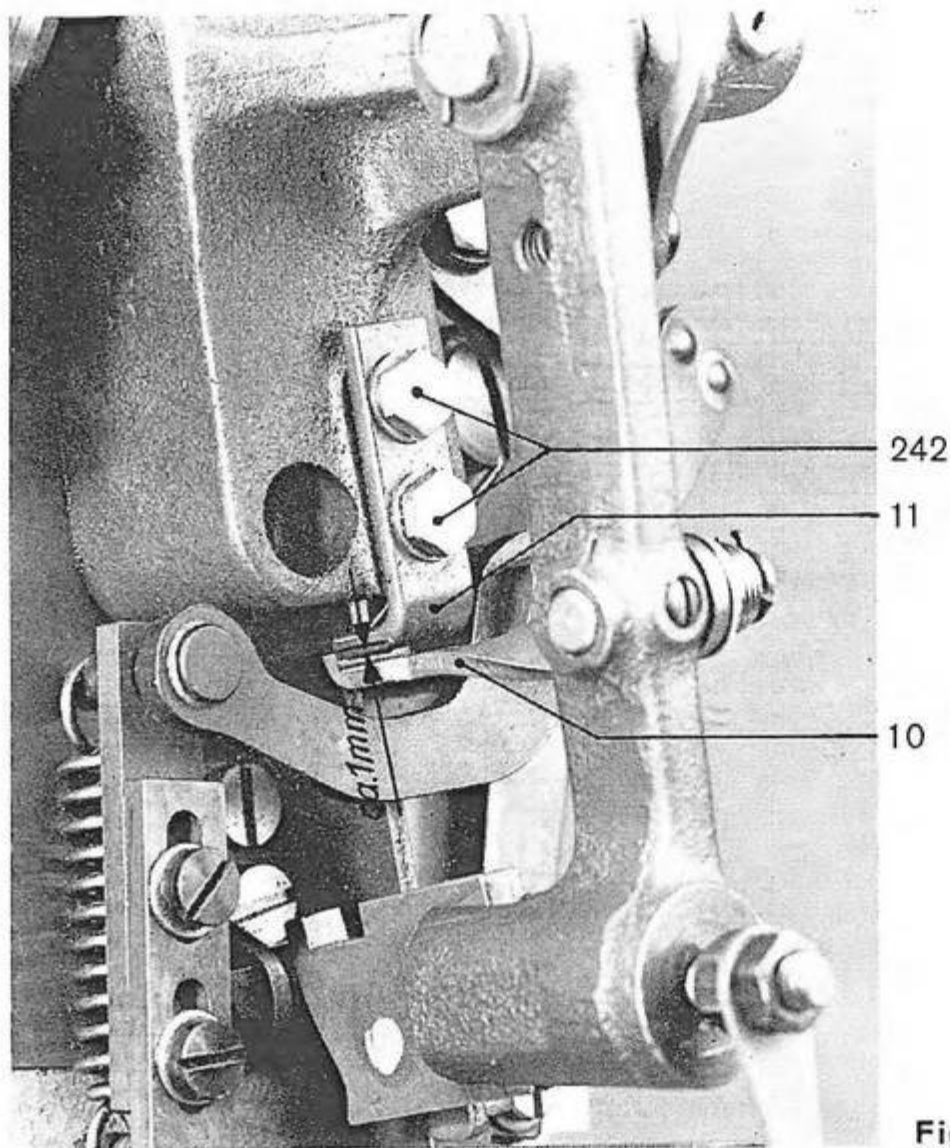
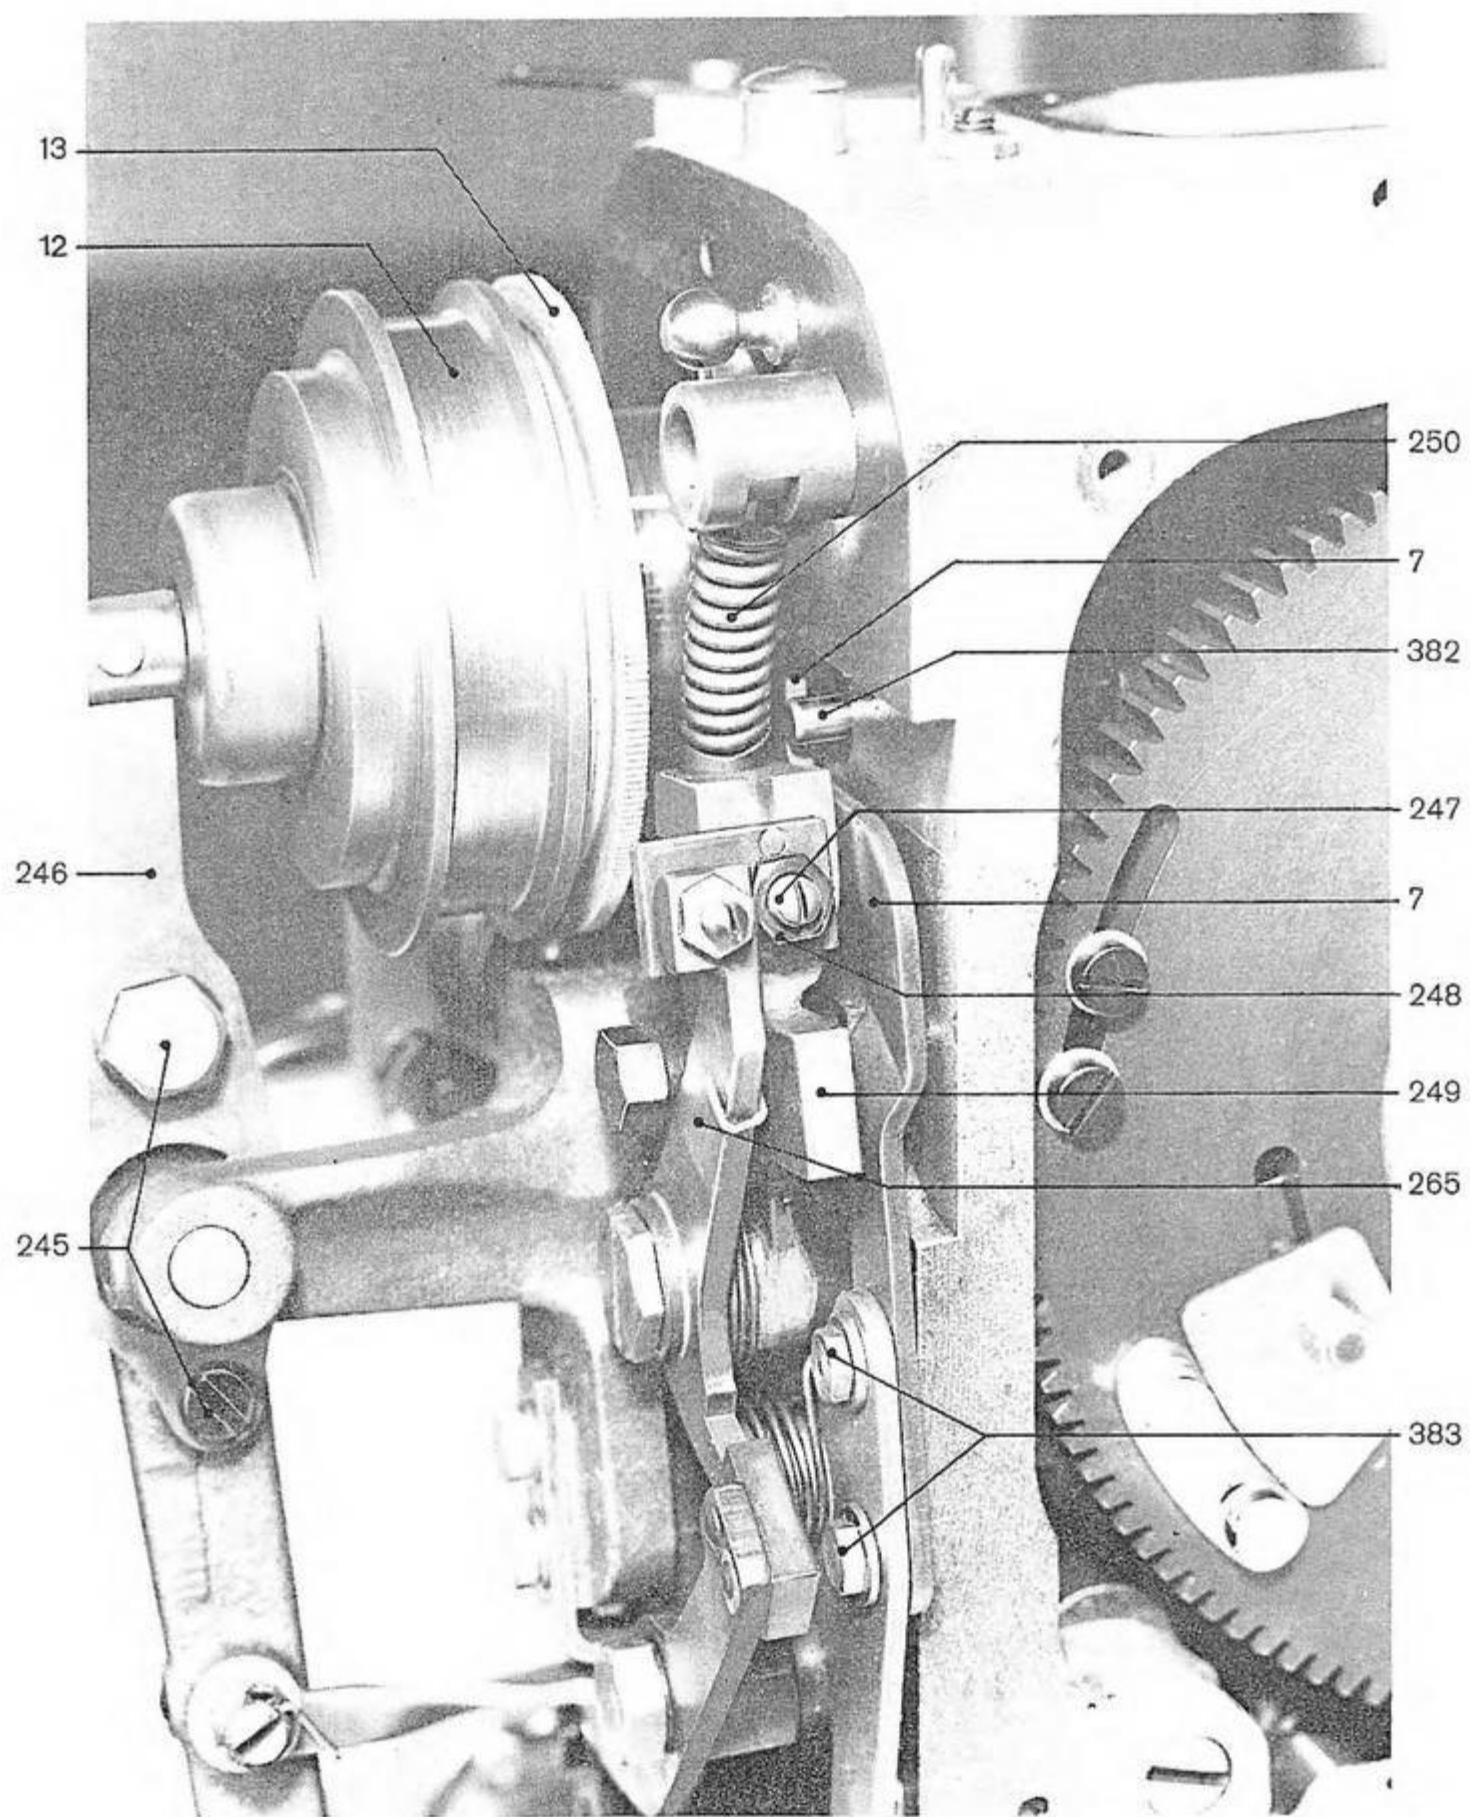
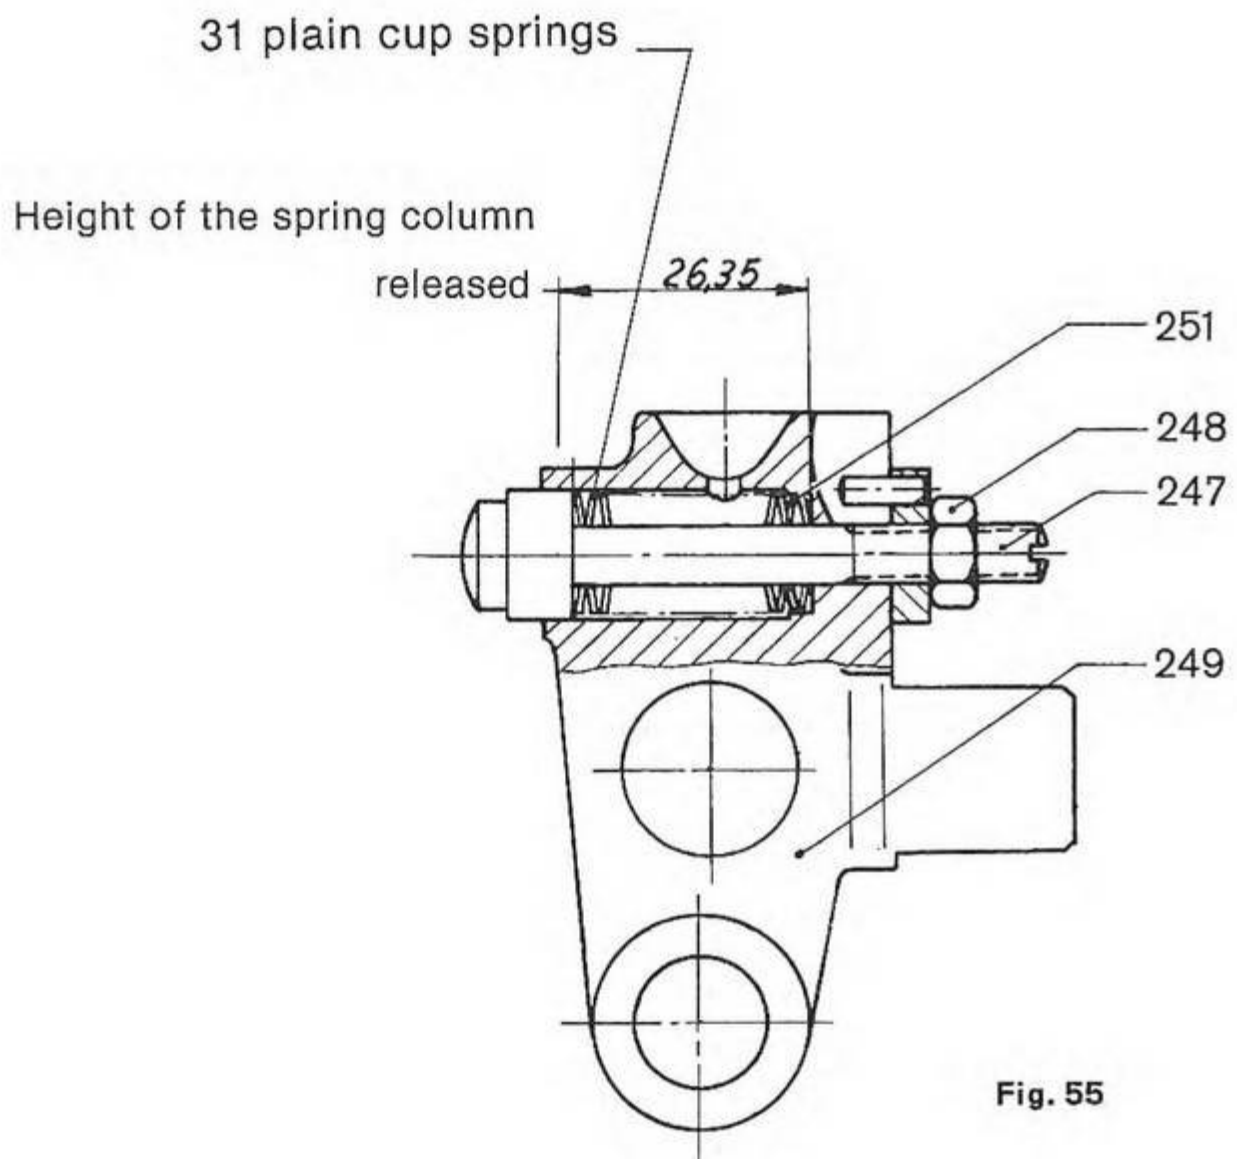

Fig. 52
Fig. 54
Fig. 55
This distance can be adjusted by resetting the angular member 241 after having loosened the two screws 240 (fig. 4). In the above mentioned position of the braking piston 9, the ratchet 10 should still touch the angular member 11 (fig. 52) at a height of about 1 mm, and the belt pulley 12 (fig. 14) should in no case be engaged.
The adjustment of the angular member 11 (fig. 52) with respect to the ratchet 10 can be effected after having loosened the screws 242. If required, adjust the coupling play of the belt pulley 12 (fig. 14) as described below under 6.
6. Adjust now the clutch play between the clutch disk 13 (fig. 54) and the belt pulley 12.
For adjusting the clutch play, loosen the screws 245 (fig. 54) and regulate the lever 246 or the pulley 12.
Following the clutch play adjustment check by pressing the disengaged belt pulley 12 (fig. 54) by hand against the clutch disk 13 whether it touches the clutch disk 13 or whether there is a slight clutch play.
7. The braking piston 9 (figs. 4 and 49) is guided by the thrust bolt 247 (figs. 54, 55 and 55a). With the machine being disengaged, set the thrust bolt 247 so that the distance between the braking piston 9 and the thrust bolt 247 amounts to about 0.2. mm.
In order to adjust this distance, loosen the counter nut 248 (fig. 54) and turn the thrust bolt 247 by a screwdriver.
For a perfect operation of the articulated lever 249 (fig. 54) it is necessary that in released condition the screw pressure spring 250 has the length of 37 ± 0.7 mm.
Fig. 55 a
The spring assembly on the thrust bolt 247 (figs. 54 and 55) in the articulated lever 249 should usually consist of 31 simply stratified cup springs 251 (fig. 55). In released condition, the spring assembly should have a height of 26.35 mm. See fig. 55. In case of difference, add or remove a cup spring.
In the above position of the braking piston 9, the ratchet 10 (fig. 52) should still touch the angular member 11 (fig. 52) at a height of about 1 mm, and the belt pulley 12 (fig. 54) should in no case be engaged.
The adjustment of the angular member 11 (fig. 52) with respect to the ratchet 10 can be effected after having loosened the screws 242. If required, adjust the clutch play of the belt pulley 12 as described under A.6.
7. For adjusting the thrust bolt 247 (fig. 54), see the instructions under A.7.
If, for the reasons specified below, the machine is disengaged at a too high stopping speed and the thrust bolt 247 (fig. 54) therefore wips or the articulated lever 249 is thrown out, then the ratchet 265 of the disengagement safety device must be released.